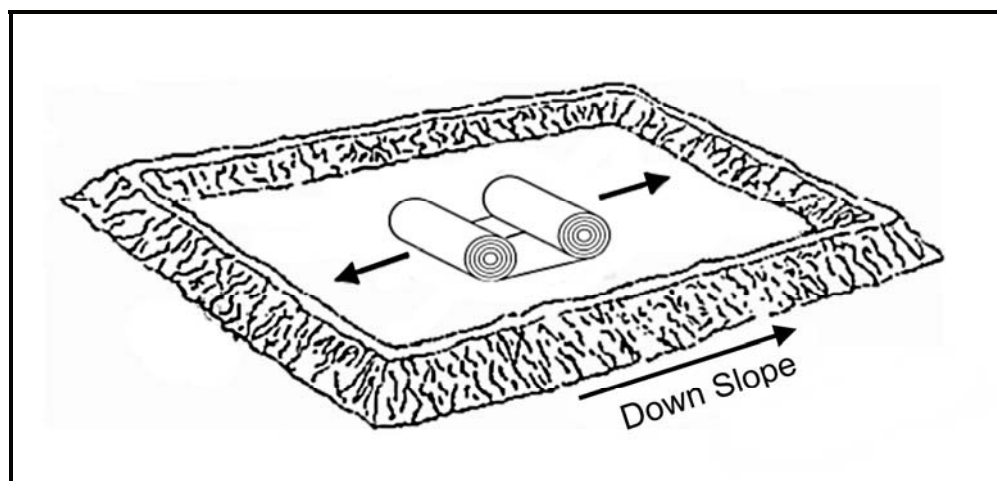

Figure 12. Unrolling the Berm liner.
5. Unwrap the berm liner from its packaging material, then unroll one-half of the berm liner (Figure 12) along the length of the installation site, then unroll the other half of the berm liner (Figure 12) in the opposite direction along the length of the installation site.